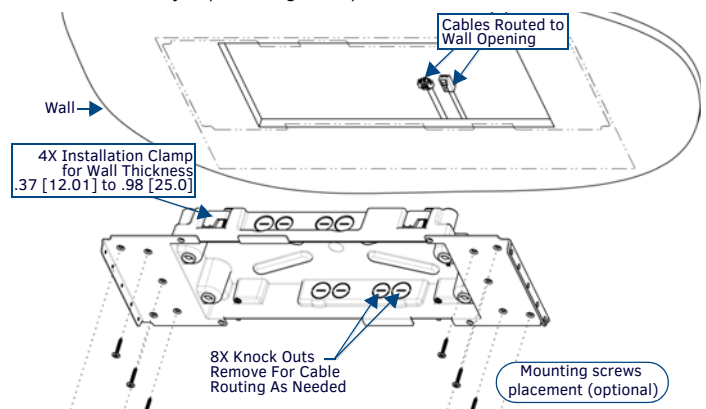

FIG. 4 MXD-2000XL-PAN BACKBOX INSTALLATION (LANDSCAPE)
- Thread the incoming power and Ethernet wiring from their terminal locations through the surface opening (see FIG. 4 on reverse). Leave enough slack in the wiring to accommodate any re-positioning of the panel.
- For additional strength, #4 mounting screws (not included) may be secured through the mounting holes located at the left and right sides of the panel (FIG. 4). In order to prevent damage to the touch panel, make sure that these are flush with the Backbox.